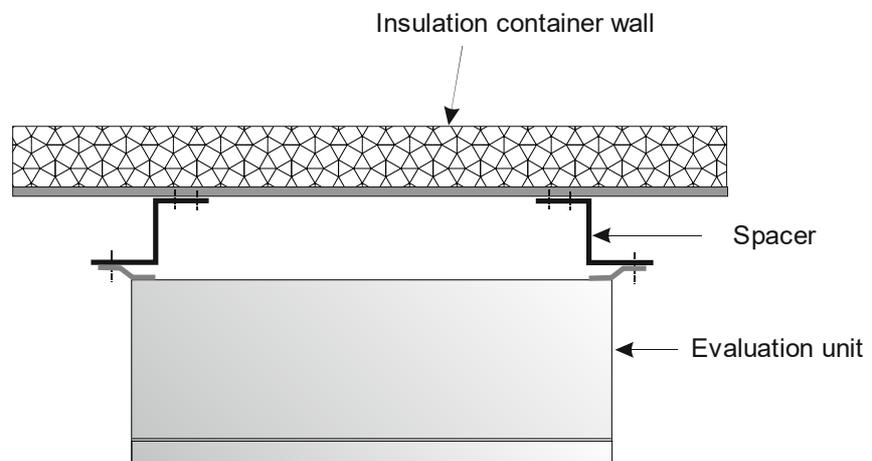

*Figure 4-2:
- The flow cell should be installed in a vertical riser, if possible. It must be ensured that material deposits cannot form on the pipe walls and no bubble formation occurs in the product. In case of horizontal installation, please observe the correct orientation of the HF connections, see Figure 4-2.